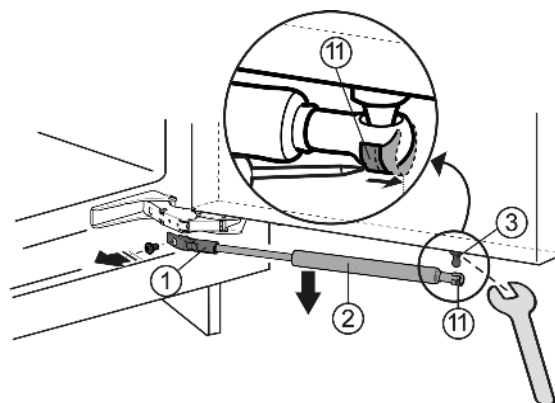

Fig. 3
- ▶ Push tension spring Fig. 3 (11) outwards, using a screwdriver.
- ▶ Lower soft stop mechanism Fig. 3 (2) for removal.
- ▶ Unscrew holder Fig. 3 (1).
- ▶ Unfasten ball stud Fig. 3 (3) using a spanner.